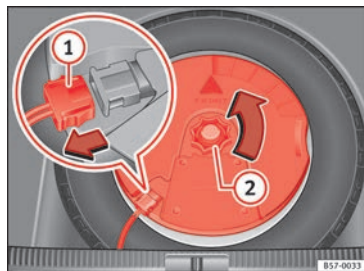

Fig. 229 In the luggage compartment: remove the subwoofer.
- Disconnect the *subwoofer* »» Fig. 229 ① speaker cable.
- Turn the securing wheel in an anti-clockwise direction »» Fig. 229 ②.